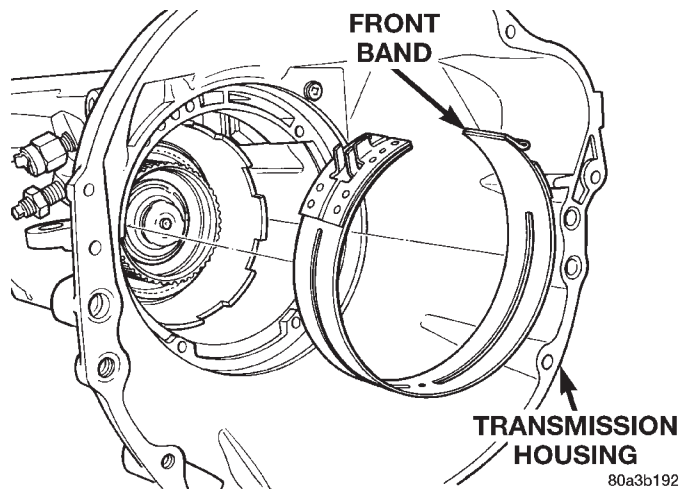

Fig. 103 Front Band
(30) Insert front band into opening at front of transmission case (Fig. 103).